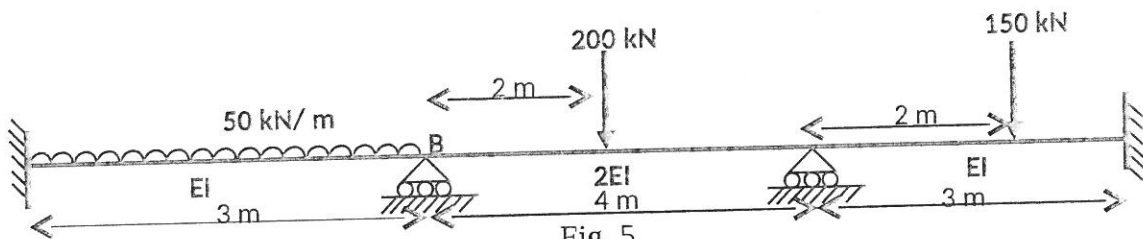

Fig. 5
6. Analyse a continuous beam shown in Fig.5, by moment distribution method.